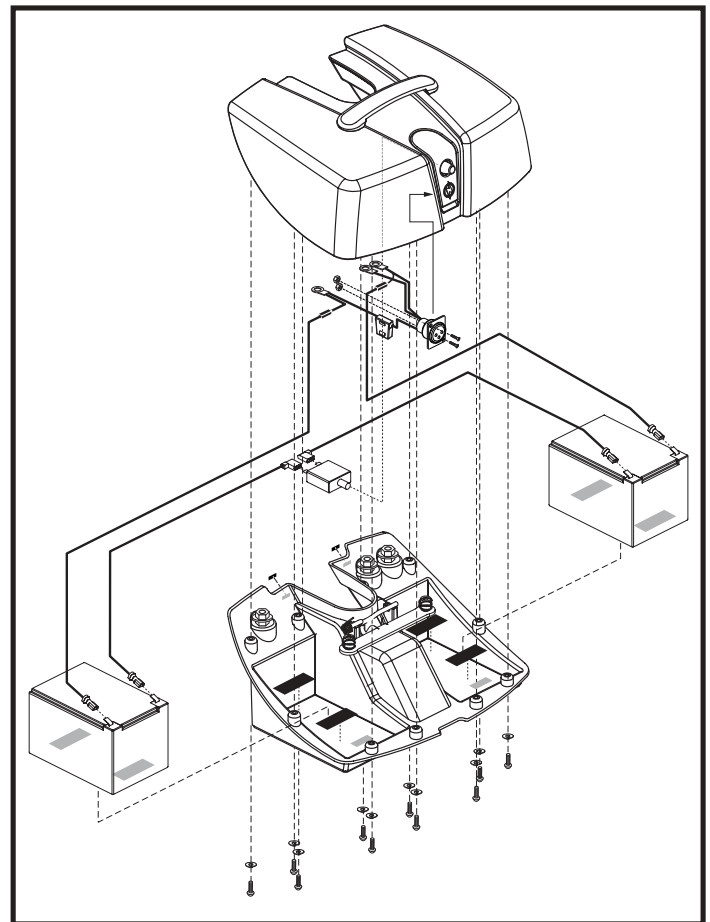

Figure 25. Z-Chair Battery Box
3. Remove all screws that hold the battery box halves together. See figure 25.